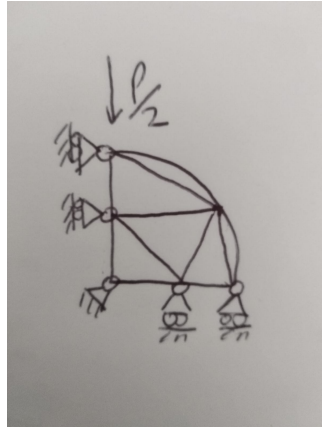

Figure 2: System a) simplified
- To study the problem in an easier way, this system can be divided in four parts and study only one of that part, splitting the load in two halves  $P^{eq} = \frac{P}{2}$ . To have an equivalent simpler system, vertical and horizontal rollers are added in each node lying on the symmetry lines, plus an hinge in the centre. The rollers are going to transmit the component according to their "rolling" direction and to generates an opposite load on the normal direction; this is what is described by the symmetry line, so it is a good simplification. The hinge doesn't let the node moving in any direction (only permits the rotation), that's why it is applied in the center of the system, where the two symmetries axis intersect. That point, by definition, can not move as is the center of symmetry: the hing well describes this behaviour. In figure 2 are shown the coarse mesh and the relative constraints. The displacements BCs prescribed by the
- (b) The problem can be simplified in two ways. One is the same as in figure 2. In this case the vertical load has the opposite direction and there will be an extra load on the horizontal direction (according with the verse in the general problem), divided by two as well:  $P_x^{eq} = \frac{P}{2}$ . The other way is referring to the anti-symmetry lines, changing all the constraints applied while simplifying. It will be well explained in the next problem. It is not represented here because it will be better and easier to use as referent simplification criteria the symmetry line. The displacements BCs are the same as the system above.